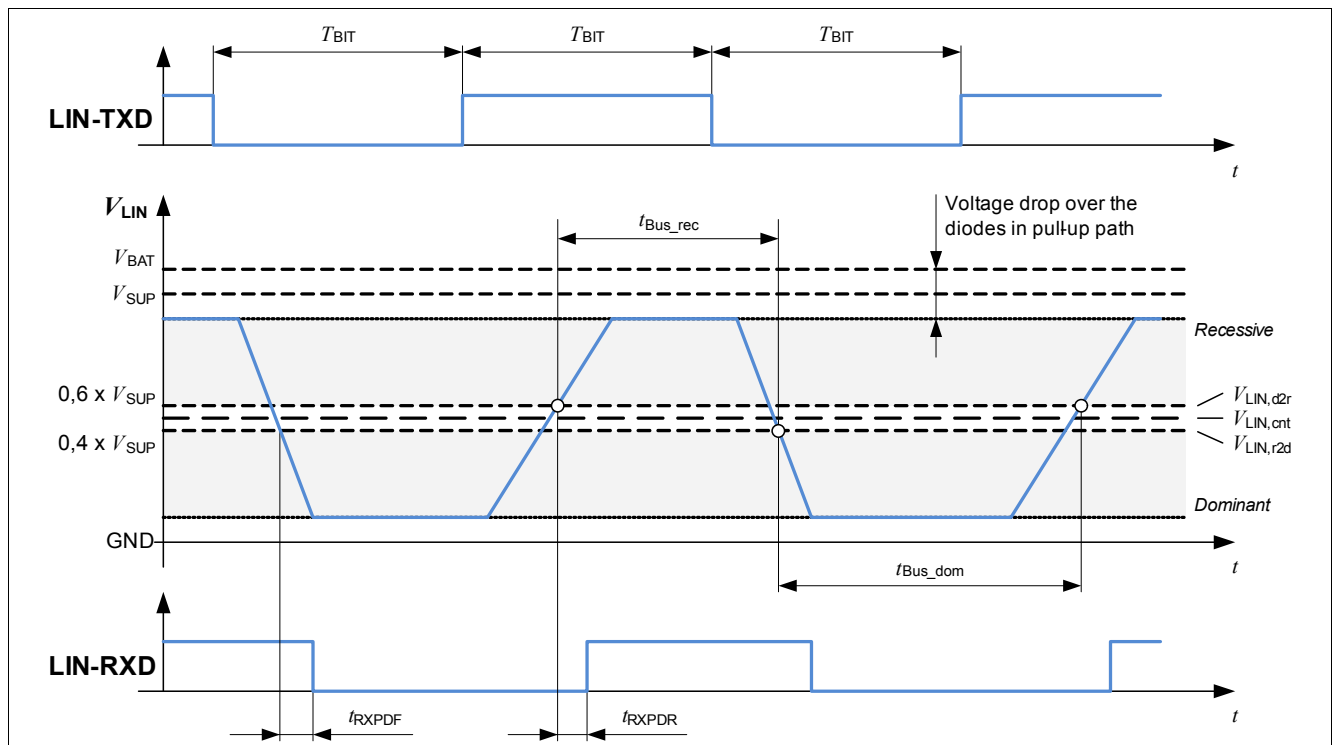

Figure 14 LIN signal specification
The transferred data bits are encoded with the value ‘0’ (dominant level, bus line is clamped to GND) or ‘1’ (recessive, bus voltage is near to V_{BA}). For a correct transmission of a bit the bus voltage must be on the respective voltage level (dominant or recessive) at the bit sampling time of the receiver. Propagation delays as well as slew rates according the LIN specification have to be considered (refer to **Figure 14**).
- 2) Bus loading conditions ($C_{LIN}; R_{LIN}$) = (1 nF; 1 k Ω), (6.8 nF; 660 Ω) and (10 nF; 500 Ω). For signal specification, refer to **Figure 14 “LIN signal specification” on Page 48**.